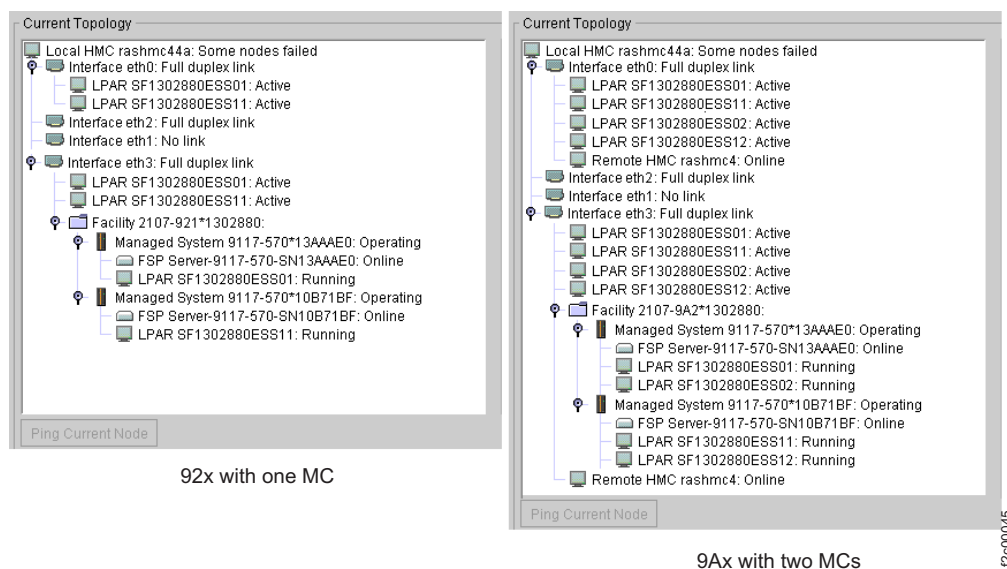
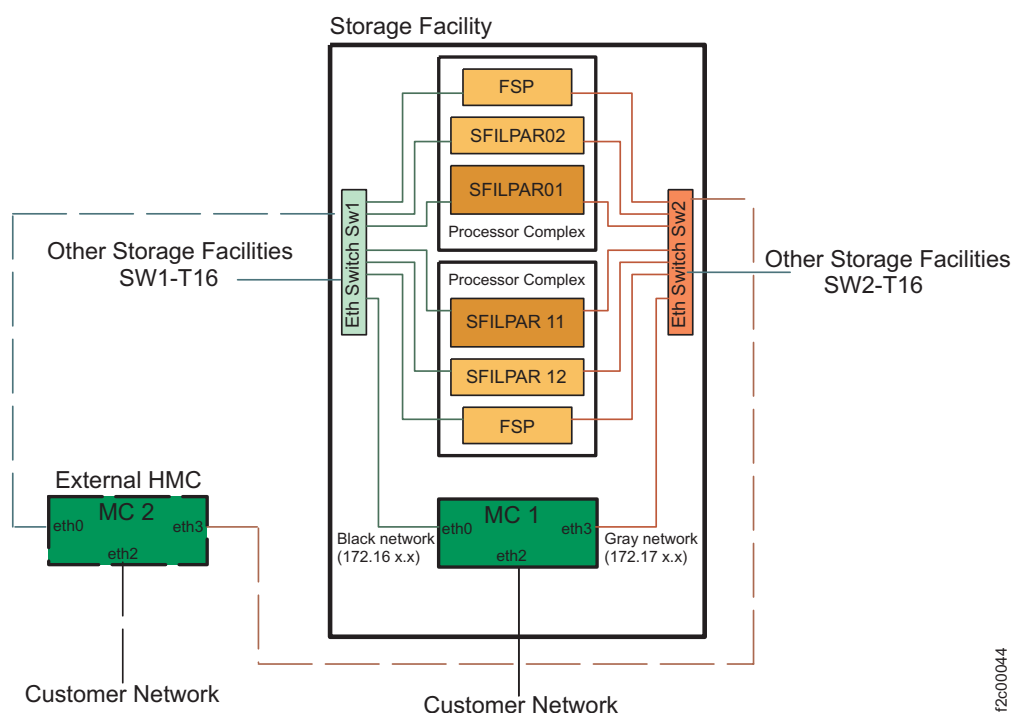

Figure 70. Two examples of the current topology screen
Figure 71. Diagram of the network topology
- Determine if all expected nodes are present. Refer to Figure 70 on page 84, Figure 71 on page 84, and the Notes list.
- Yes, go to MAP7000 Entry point for DS8000 private network problems in the DS8000 Service Information Center. To display the MAP, open the service Information Center on the management console (MC), then open the **Isolation MAPs and symbolic FRU procedures** section to locate the MAP.
The left side of Figure 70 on page 84 shows an example of a 921 or 93x with a single management console. The right side shows an example of a 9A2 or 9B2 with two management consoles.